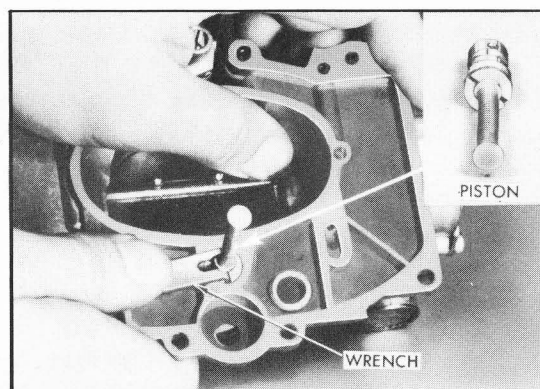

Figure 3-78—Removing Power Piston
When the accelerator pedal is depressed to start the engine, the throttle stop screw is lifted clear of the fast idle cam and the thermostat then closes the choke valve. See figure 3-78.
8. Remove vacuum power piston from air horn, using Wrench T-29733. See figure 3-78. Remove gasoline connection and screen.
13. Install the vacuum power piston in air horn, using Wrench T-24733. Hold the tool flat against the gasket surface to avoid damage to the piston or to the tool. See figure 3-78. No lubricant of any type should be used on the piston or in the cylinder in the air horn. Piston must operate freely without any lubrication.